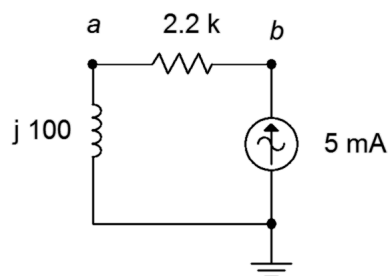

Figure 2.18
32. For the circuit of Figure 2.18, determine the applied voltage and the voltages across each component.